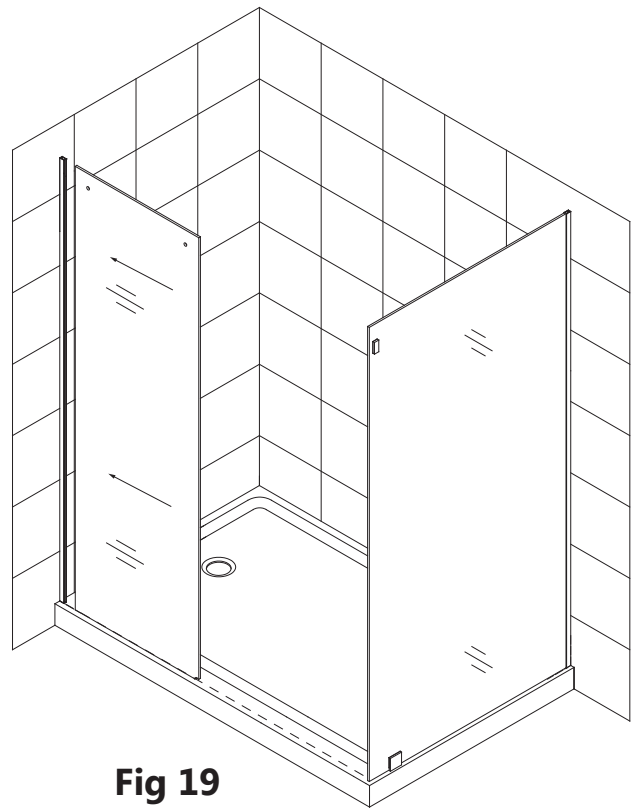

Fig 19
19. Insert the **Stationary Glass (#02)** into the installed **U-Channel (#01)**. (**Fig 19**)